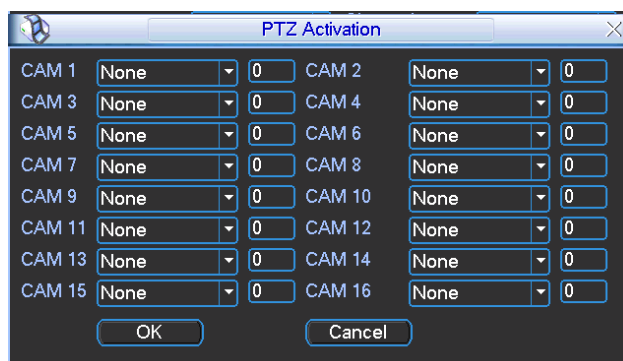

Figure 5-63
- PTZ activation: Here you can set PTZ movement when an alarm occurs. System can go to a preset, when there is an alarm. Click “select” button, you can see an interface is shown as in Figure 5-63.